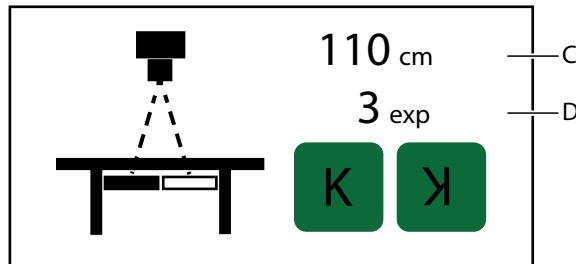

Fig. 4-53 Left and Right Limits Set
- When both limits have been defined, the total length of the composite image (**C**), see **Fig. 4-53**, and the number of exposures (**D**) are shown.